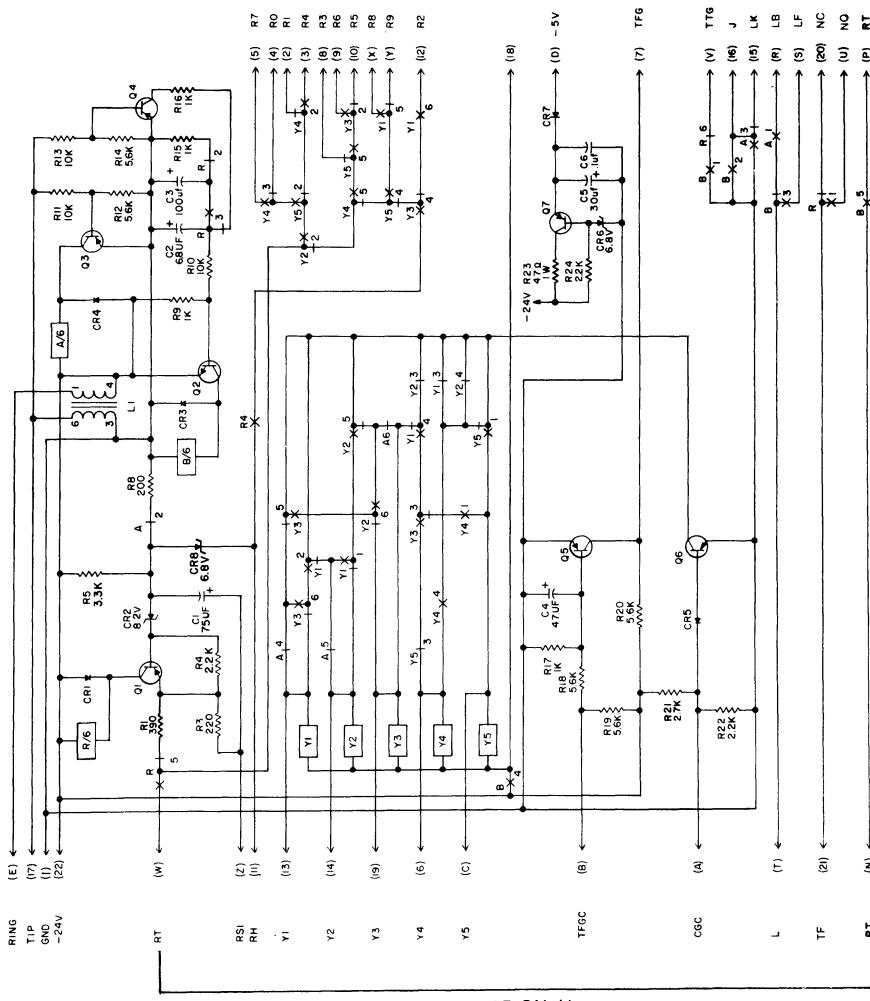

Fig. 4 - Circuit Diagram, K160C KTU
2.04 K160C, Dial Intercom Card. One is used per system to permit dial selection of nine signal paths. (This KSU is a modified version of the K160A KTU as used in the 76A Key Telephone System.) Dimensions in inches are approximately 5 3/8" W x 5 5/8" L x 1 1/4" D. (22 dual dual contacts.) See fig. 4.